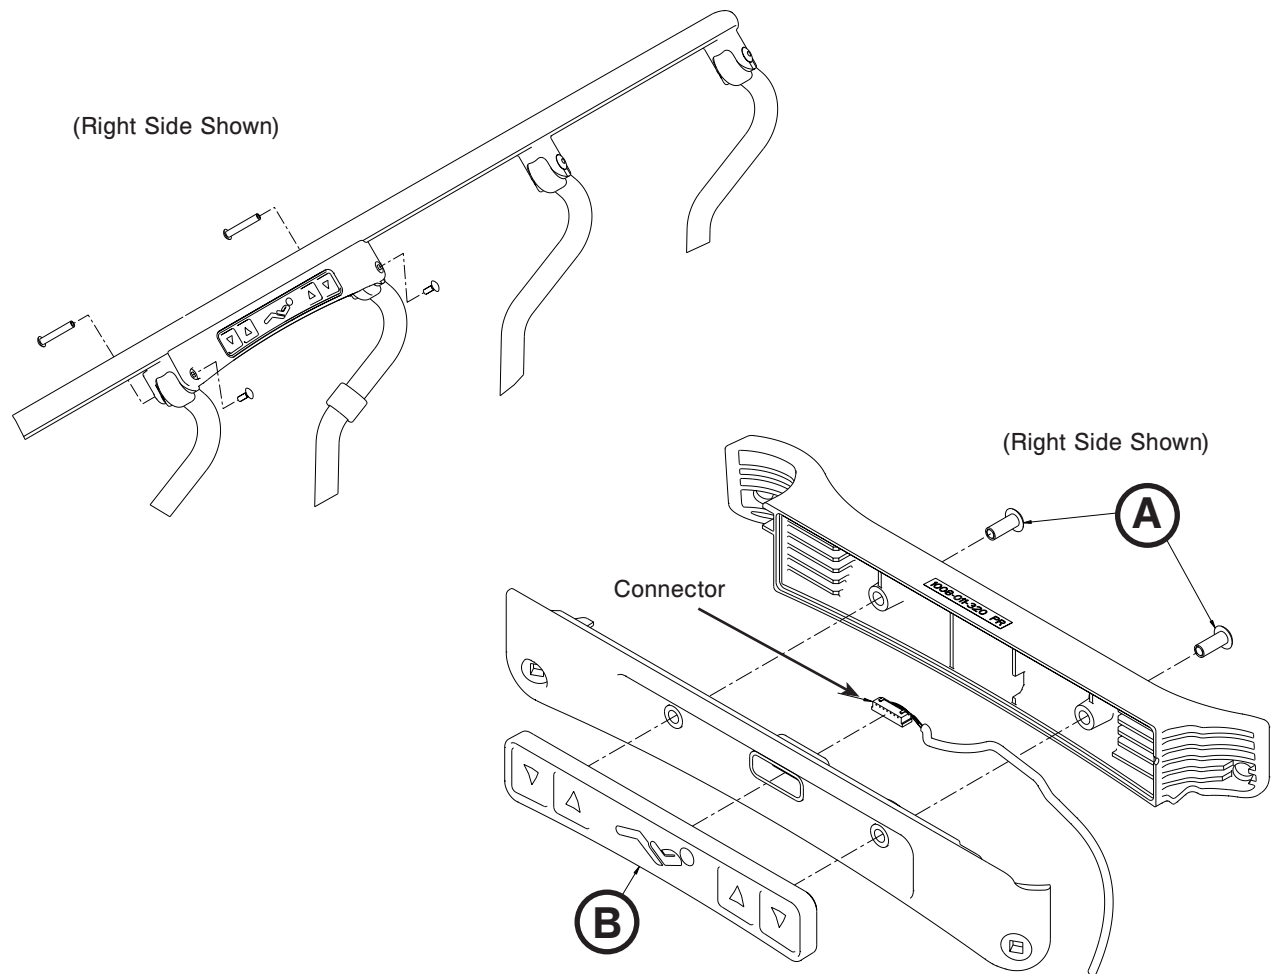

Figure 48
3. Using a #2 Phillips screwdriver, remove the two barrel nuts (A) that hold the control pad to the top rail (Figure 48).
5. Remove the siderail control pad (B) from the top rail (Figure 48).